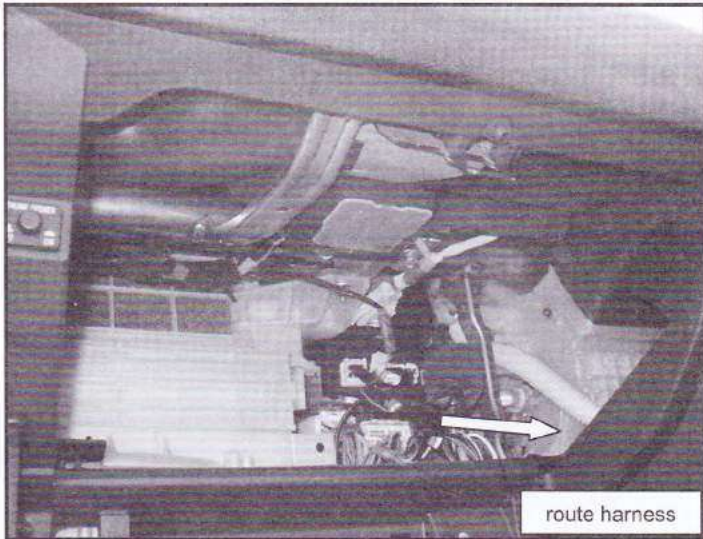

figure 5
7. Route the alarm harness within the dash to the RHS, as shown in figure 5.